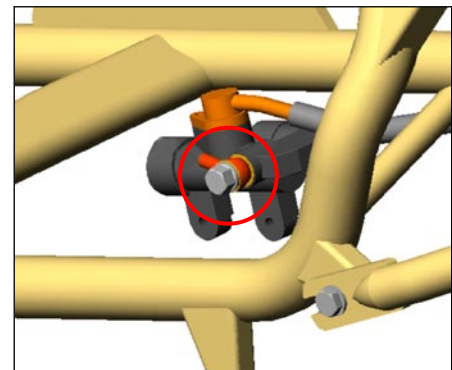

Figure 11
- c. Disconnect and remove the front brake line from the side port of the rear master cylinder, the tabs securing it to the frame and the hard line to the front. Figure 11